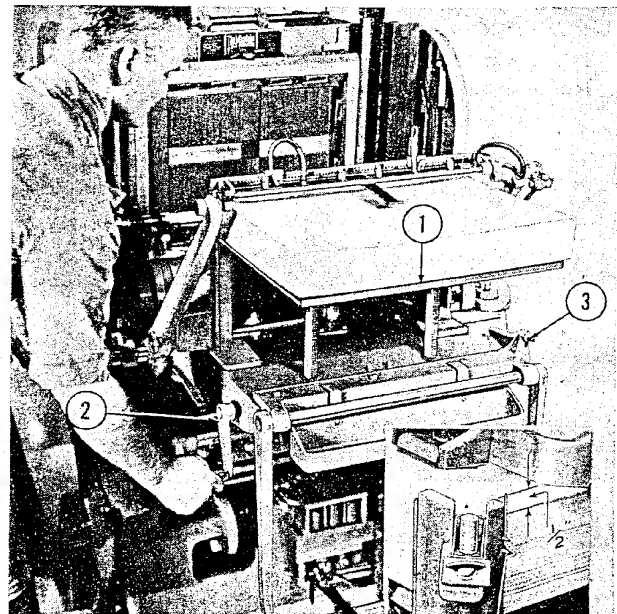

Figure 13—Setting Pile Height
(2) HOW TO SET FEEDER TABLE FOR PILE HEIGHT.—The feeder pile table (1) figure 13, may be raised or lowered manually by means of the feeder table pile adjusting crank, (2) figure 13. Push crank *in* and turn clockwise to raise, and counter-clockwise to lower.
with sheet front corners positioned in front pile guides, raise table until top sheet is $\frac{1}{2}$ " below top of front pile guides (see insert in figure 13). After height of pile is set, pull out adjusting crank, thereby locking table for automatic raising. If necessary to change pile height, an adjustment screw is provided as shown at 18 in figure 3.
pile table (in this case the guides must be interchanged), the guides may be positioned to accommodate any sheet size (within the range of the V-50) except post card size. For maximum sheet sizes it may be necessary to change the setting of the rear corner pile guide bracket (3) by adjusting the bracket stop stud (see (3) in figure 13) against which the right side bracket bears. For post card size sheets, a special guide is supplied for attaching to the corner pile guide rod. For convenience in loading the pile table, the corner pile guide rod bracket may be lowered out of operating position (see figure 13).